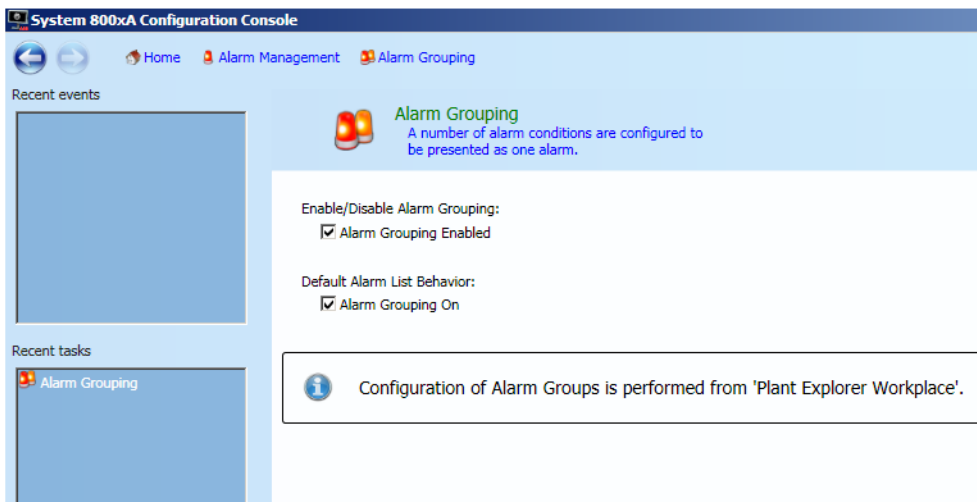

Figure 49. Enabling Alarm Grouping
1. Select **Start > All Programs > ABB Industrial IT 800xA > System > System Configuration Console > Alarm Management > Alarm Grouping**, refer to Figure 49.